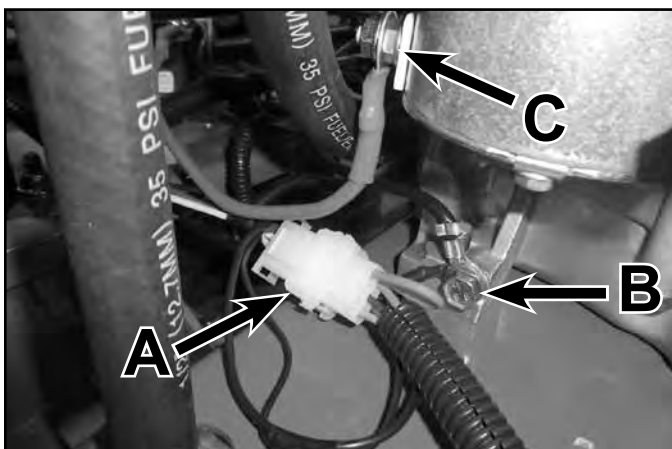

Fig. 038
7. Remove the (2) fasteners that secure the heat shield to the muffler and remove the heat shield. If necessary, remove the muffler from the engine.
8. Remove the (4) engine to frame mounting bolts. Make note of clutch stop bracket mounting orientation.
11. Disconnect chassis from engine electrical connection (A) (Fig. 038).
12. Disconnect the ground wires from the engine block (B) (Fig. 038).
13. Disconnect the positive battery cable (C) from the starter motor (Fig. 038).